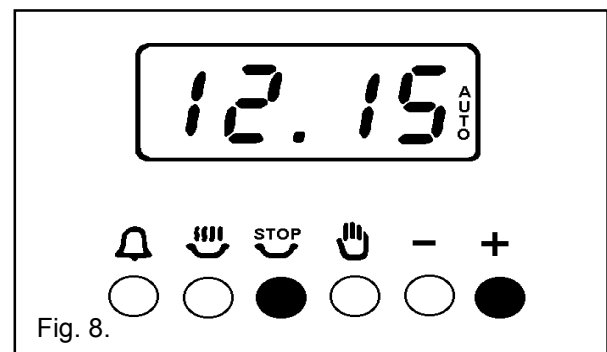

Fig. 8.
- v) Set the STOP time. Press the stop time button (STOP) press the increase control (+) until the required stop time is displayed, e.g. 12.15 p.m. as Fig. 8.